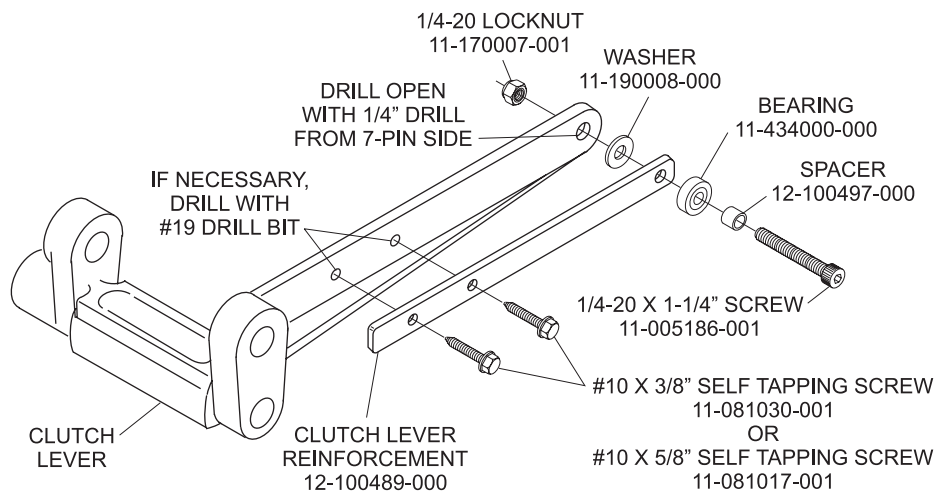

Figure 2
- From the 7-pin side of the pinsetter, use a 1/4" drill bit to open the pin hole on the clutch lever (P/N 12-100486-000). Refer to *Figure 2*.
- Place the clutch lever reinforcement (P/N 12-100489-000) onto the clutch lever. Connect the reinforcement by placing washer (P/N 11-190008-000), bearing (P/N 11-434000-000), and spacer (P/N 12-11497-000) onto 1/4-20 x 1-1/4" screw (P/N 11-005186-001); then install the screw, spacer, bearing and washer through the reinforcement clutch lever and tighten the locknut (P/N 11-170007-001). This should hold the clutch lever reinforcement in place for steps 6 and 7. Refer to *Figure 2*.
9. If the clutch lever does not have two holes already aligned with the reinforcement, carefully drill two holes from the 7-pin side with a #19" drill bit using the reinforcement as a template. Refer to *Figure 2*.